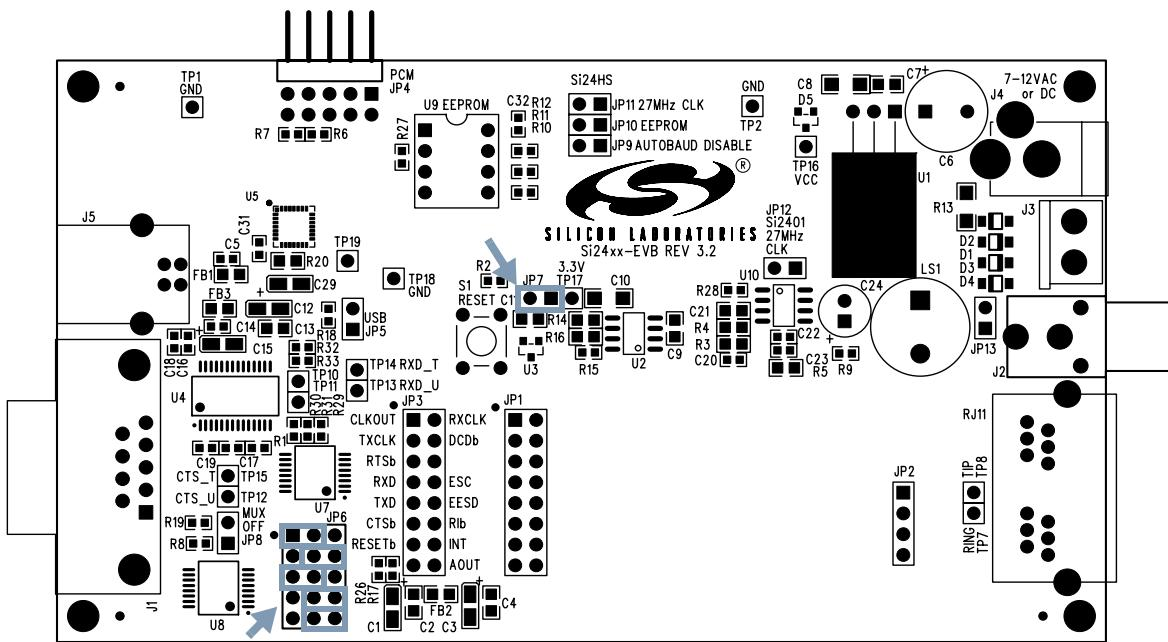
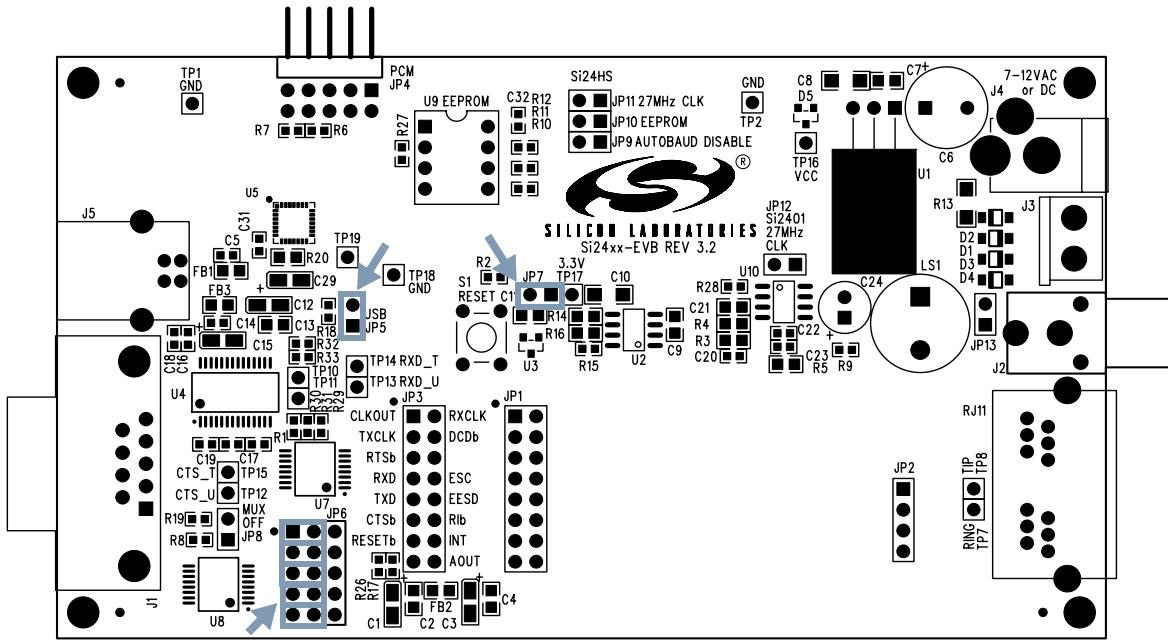
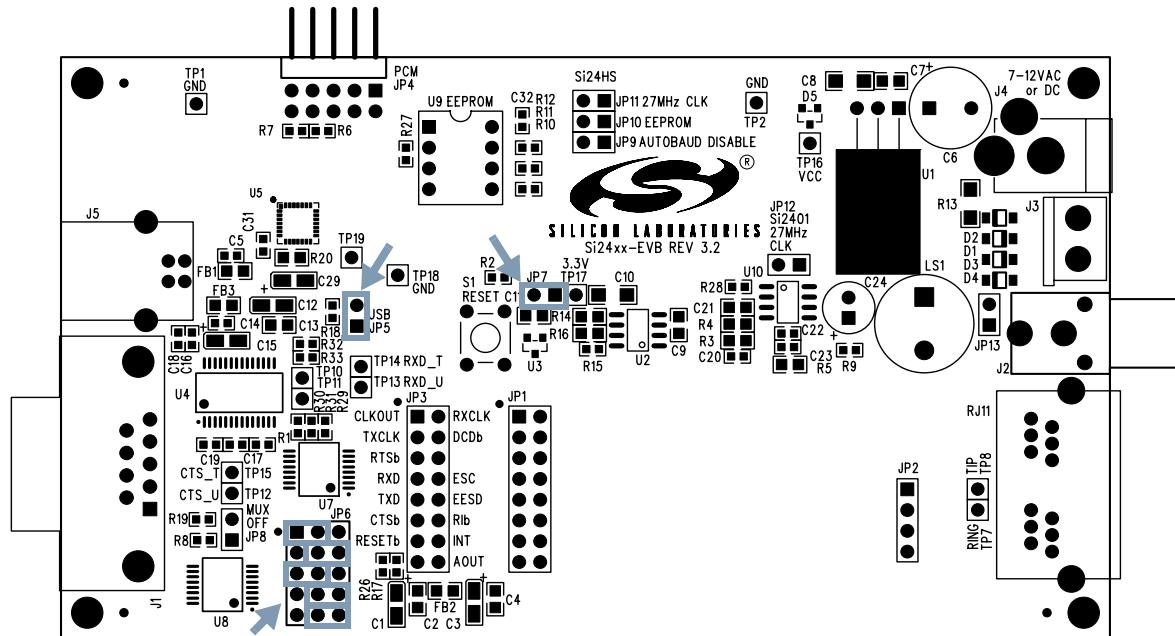

Figure 2. Standard Factory Jumper Settings—RS-232 Interface (Outlined in Gray) (FS Option)
Figure 3. Standard Factory Jumper Settings—USB Interface (Outlined in Gray) (FT Option)
Figure 4. Standard Factory Jumper Settings—USB Interface (Outlined in Gray) (FS Option)
1. Set jumpers according to Figure 1 or Figure 2.
1. Set jumpers according to Figure 3 or Figure 4.
Check all jumper settings on the Si2493/57/34/15/04-EVB before applying power. The standard factory jumper settings for the FT package are shown in Figure 1; the FS package is shown in Figure 2. These settings configure the Si2493/57/34/15/04-EVB for RS-232 serial operation with autobaud. Any standard terminal program configured to communicate through a PC COM port can be used to communicate with the Si2493/57/34/15/04-EVB. The standard factory jumper settings for USB operation with the FT package are shown in Figure 3; the FS package is shown in Figure 4. The only difference between RS-232 and USB jumper settings is that JP5 must be installed to enable USB.